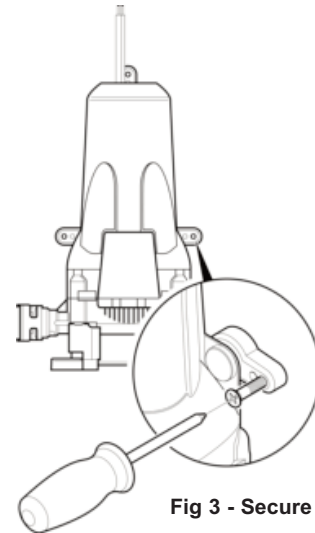

Fig 3 - Secure the Pump
- Step 4** Feet positions are adjustable to allow for retrofit. Use 3 stainless steel screws and washers (supplied with retail pump) to fasten pump to solid surface and support the pump securely. See Figure 3.